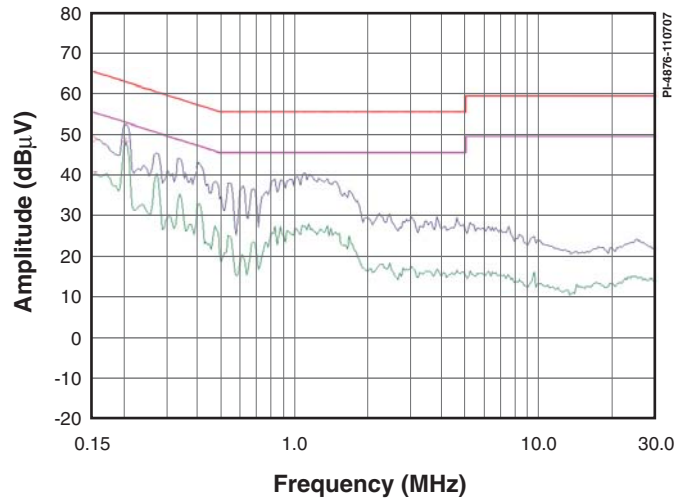

Figure 3. Worst Case Conducted EMI Scan to EN55022 B Limits. (Output RTN Connected to Earth).
- Simple EMI filter meets EN55022B limits (see Figure 3)
Diodes D1, D2, D3 and D4 rectify the AC input voltage. Differential EMI filtering is provided by C1 and L1. Capacitor C6 provides common mode EMI filtering. The integrated frequency jitter feature of U1, along with transformer E-Shield® techniques, allows such simple EMI filtering to comply with EN55022B limits (see Figure 3).